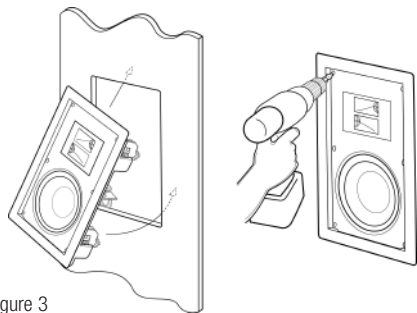

Figure 3
4. Insert the speaker assembly into the opening and attach by tightening the six Phillips screws (see illustration). The frame's six "dogs" will swivel out and "sandwich" the wall and frame together as they are tightened. If you use a power tool to tighten these screws, please use a low torque setting. Failure to do so could result in damage to your speaker (Refer to Figure 3)